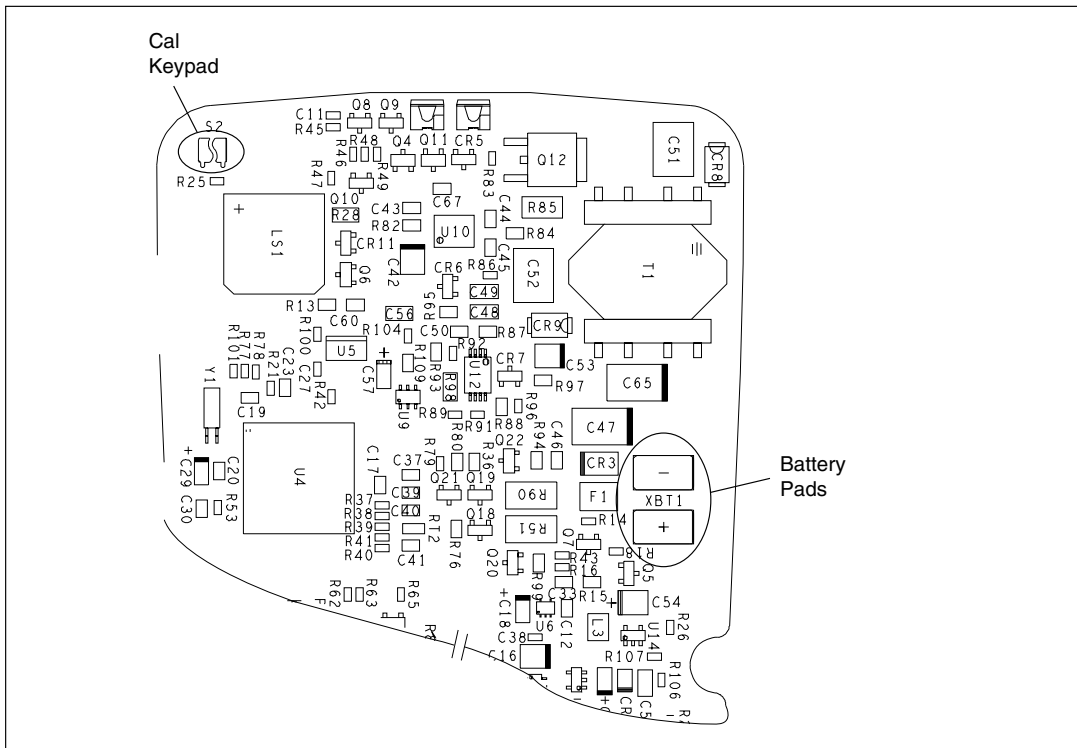

Figure 10. Restoring the Default Password
3. Apply 6.0 V across the battery pads (XBT1) + and – on the back of the PCA. See Figure 10.
4. Short across the **Cal** keypad on the back of the PCA. See Figure 10. The UUT should beep. The default password is now restored.